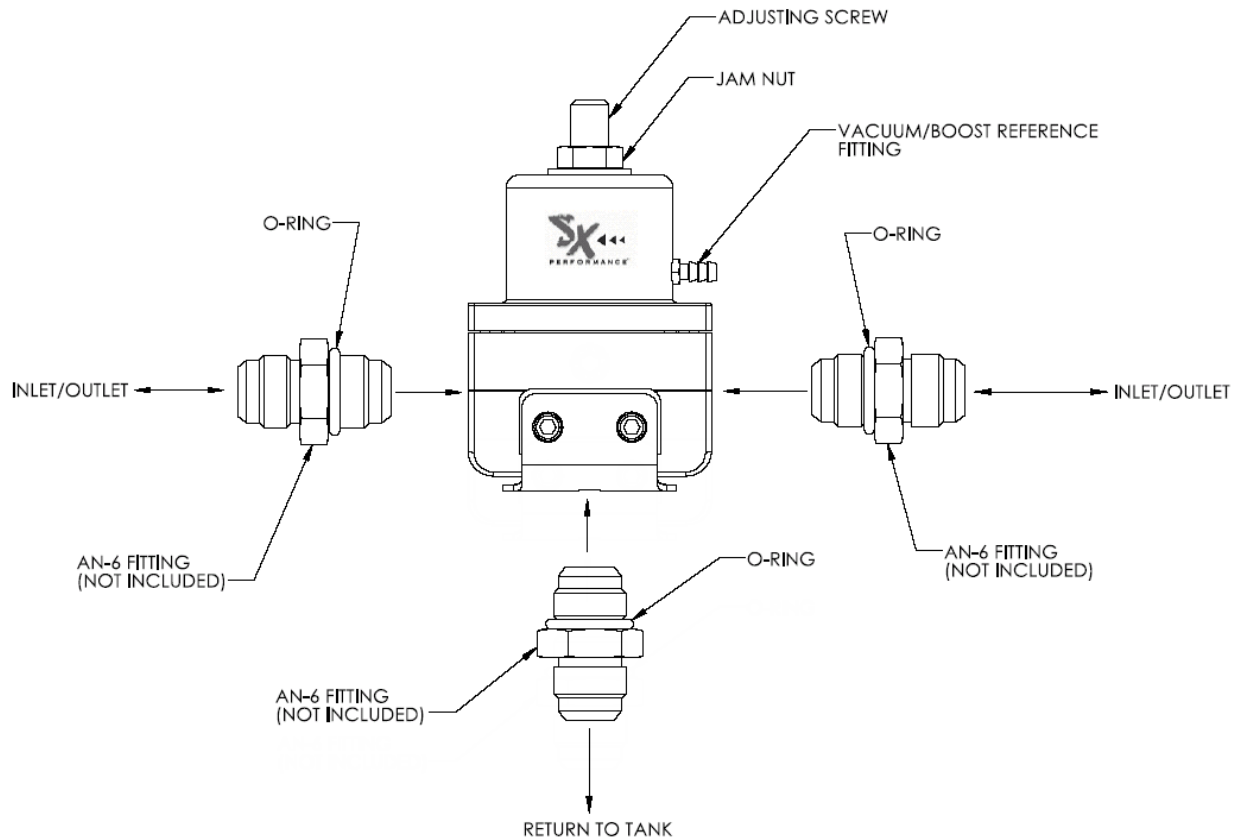

Figure 1 – SX Performance™ Model 15404 Fuel Pressure Regulator
5. Install the o-rings and fittings as shown in Figure 1. AN style fitting threads use no thread sealer. Assemble the bracket and regulator as shown in Figure 1 and install the regulator and bracket assembly at the desired location.
6. Assemble the bracket and regulator as shown in Figure 1 and install the regulator and bracket assembly at the desired location.
7. Connect and tighten fittings to the inlet and outlet fuel lines, see Figure 1. Connect the return line to the bottom return port of the regulator. The bottom port (labeled return in figure 1.) must be used and is not interchangeable with the inlet/outlet ports. The regulator must be plumbed from this port to the fuel tank. The return line must be at least 3/8" line size (-6) or larger, and plumbed using AN-6 union fitting, or a reducer fitting from the bottom port of the regulator to the fuel tank
8. Coat the threads of the boost reference/vacuum fitting with thread sealer (not supplied) and install it into regulator port as shown in Fig. 1. Check for leaks around threads after curing. Connect the vacuum line to the boost reference/vacuum fitting on the regulator if so equipped. If no boost/vacuum reference is being utilized, leave the fitting or hole in the regulator cover open to atmosphere.